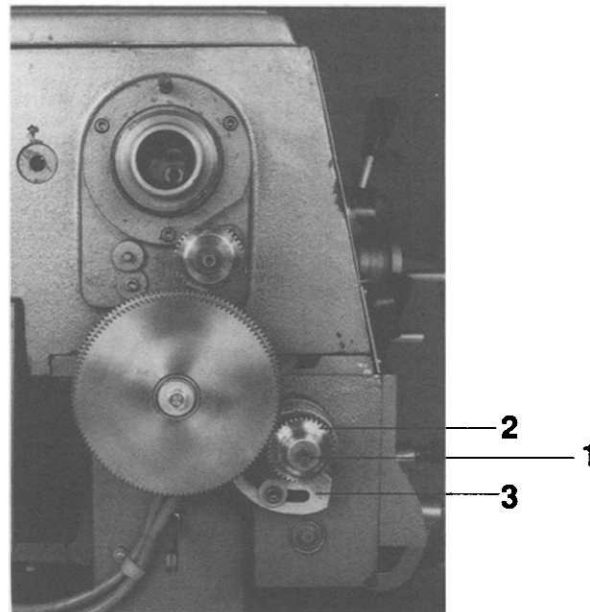

Figure 2
2. Using a 5mm Allen wrench, remove the lower gear on the gearbox drive train (#1 in Figure 2). This gear is keyed to its shaft—be careful not to lose the key when the gear comes off.